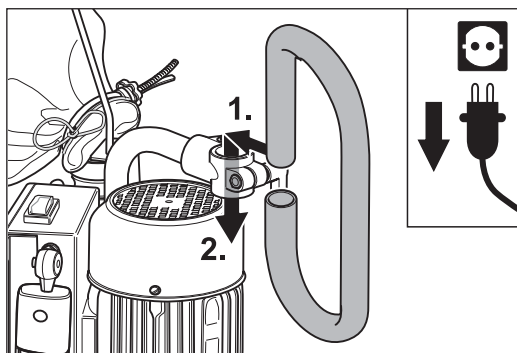

Fig. 17 Installing the handlebar on the pipe bend.
- 2 Install the handlebar directly in the bracket on the front end of the pipe bend (Fig. 17). Tighten the clamping lever again.